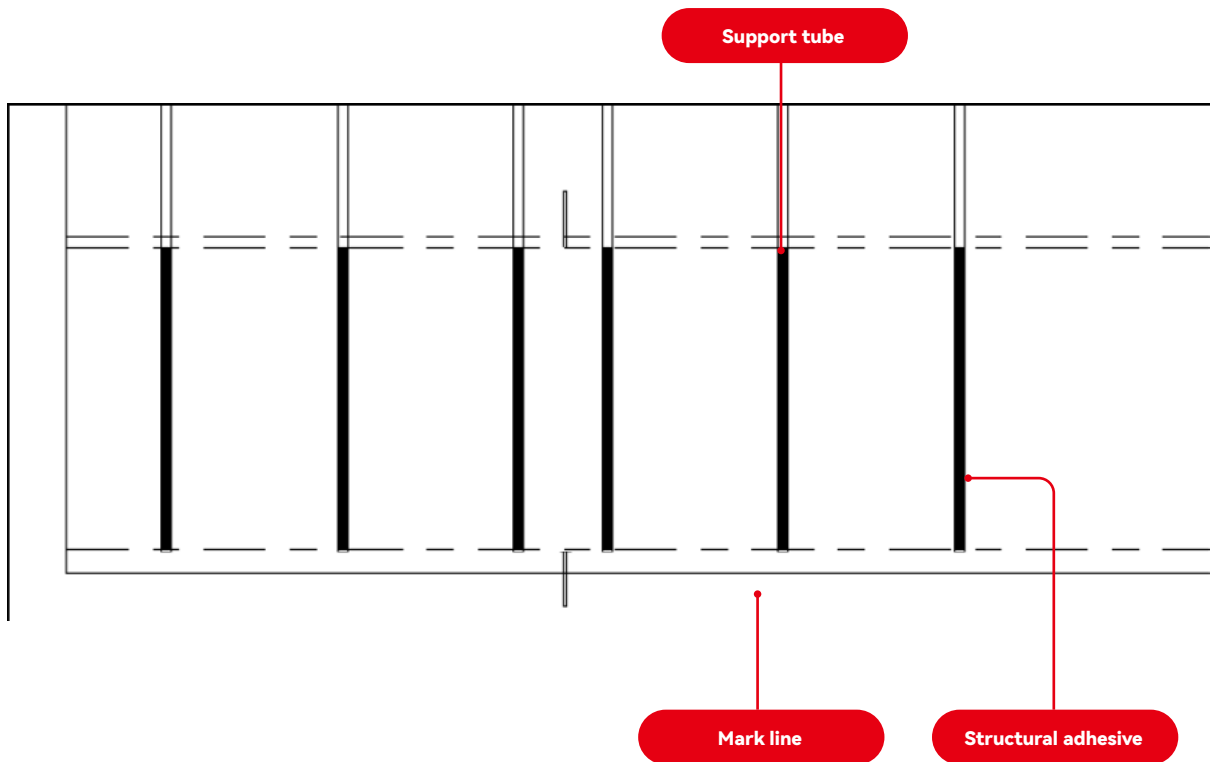

FIGURE 18
- The adhesive position on the support tube should be determined by the chalk line, and the structural adhesive should be applied according to the gluing rules at the location where the product needs to be installed. (Figure 18)